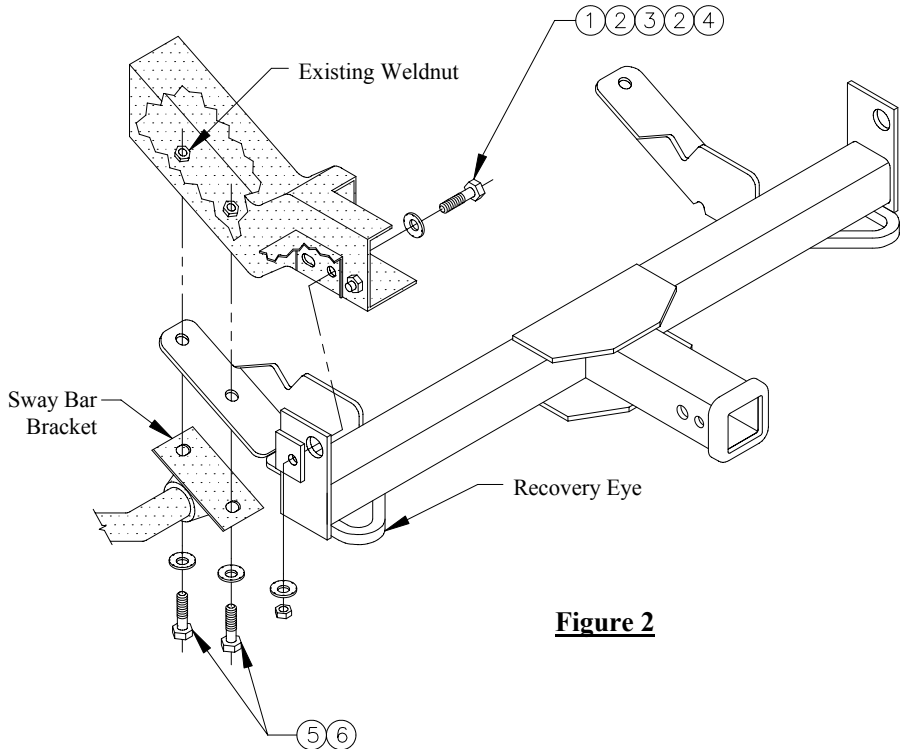

Figure 2
4. Raise receiver into position and reattach sway bar brackets placing the receiver between the frame and the sway bar bracket as shown in Figure 2.
5. Attach forward fasteners as shown in Figure 2.